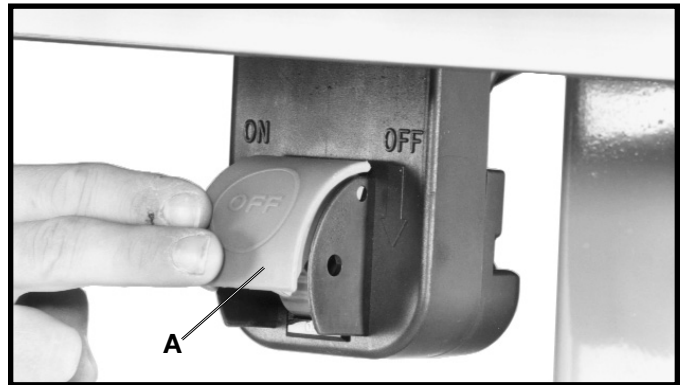

Fig. 42
2. To turn the saw “OFF”, push down on switch shield (A) Fig. 42.